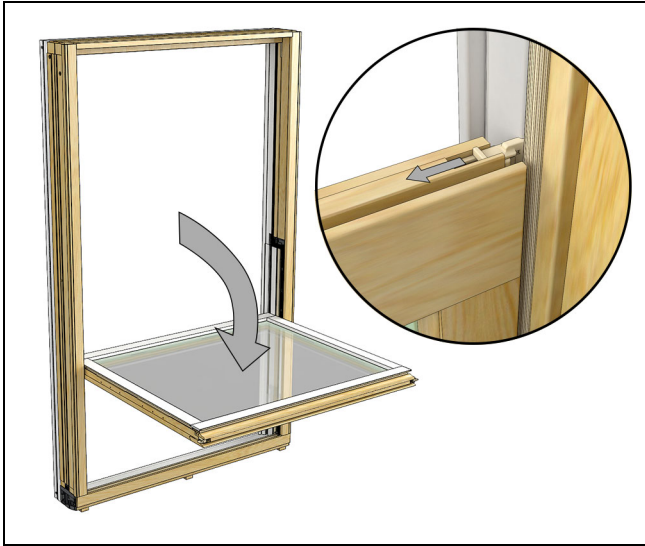

Figure 67
1. Lower top sash to a comfortable position. Retract both latches simultaneously and tilt sash inward so that it is perpendicular to frame (90° angle). See Figure 67.